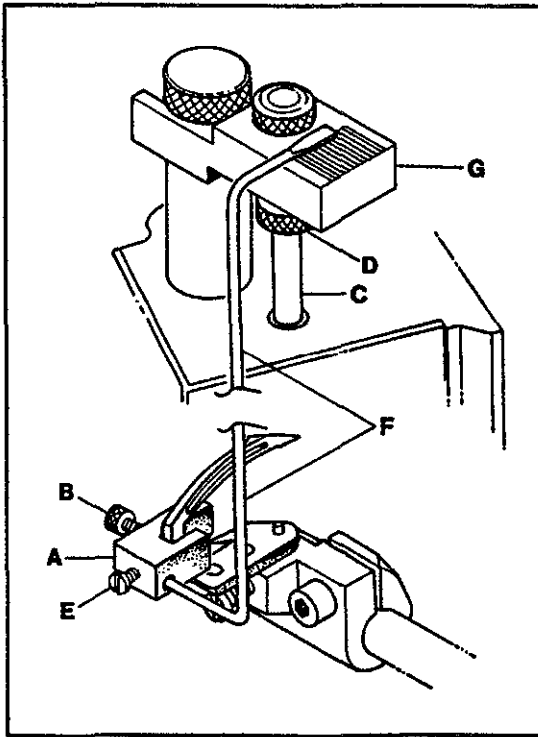
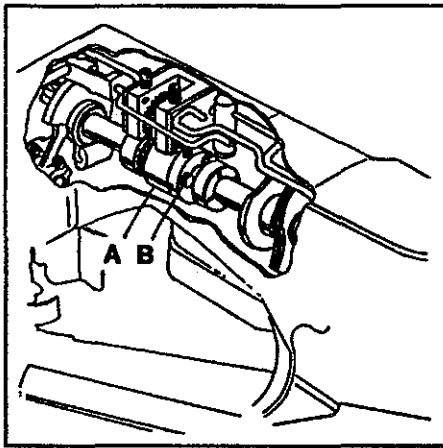

FIG. 9
FIG. 10
Attach the looper clamp and height gauge (A, Fig. 9) to the heel of the looper by tightening screw (B). Turn the handwheel slowly in a clockwise direction until needle bar (C) touches stop screw (D). Loosen screw (E) and set synchronizing gauge rod (F) so the flat end is on one of the lines in the center of the block (G). Tighten screw (E).
Turn the handwheel in the opposite direction until the needle bar touches stop screw (D, Fig. 9). Synchronizing rod (F) should come to the same line on block (G). The difference must not exceed one line.
If the setting cannot be achieved, main shaft coupling (A, Fig. 10) must be repositioned. Remove the crank chamber cover and gasket. Loosen the three coupling screws (B). If synchronizing rod (F, Fig. 9) moves more to the right while the handwheel is rotated in a clockwise direction, the looper is too fast and the main shaft should be retarded. If the rod moves more to the right when the handwheel is rotated in a counterclockwise direction the looper is too slow and the main shaft should be advanced. Tighten screws (B, Fig. 10).
**NOTE:** If the stationary Knife interferes with the synchronizing rod (F) remove the knife to make the adjustment.